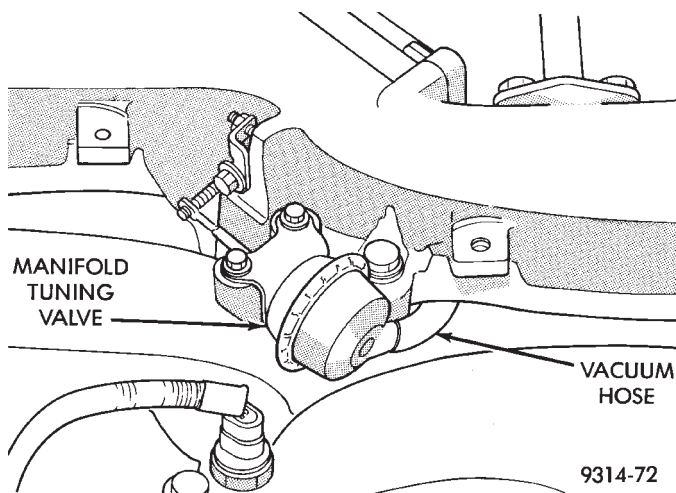

Fig. 56 Manifold Tuning Valve
- (1) Remove engine cover.
- (2) Disconnect vacuum hose from manifold tuning valve vacuum motor (Fig. 56).